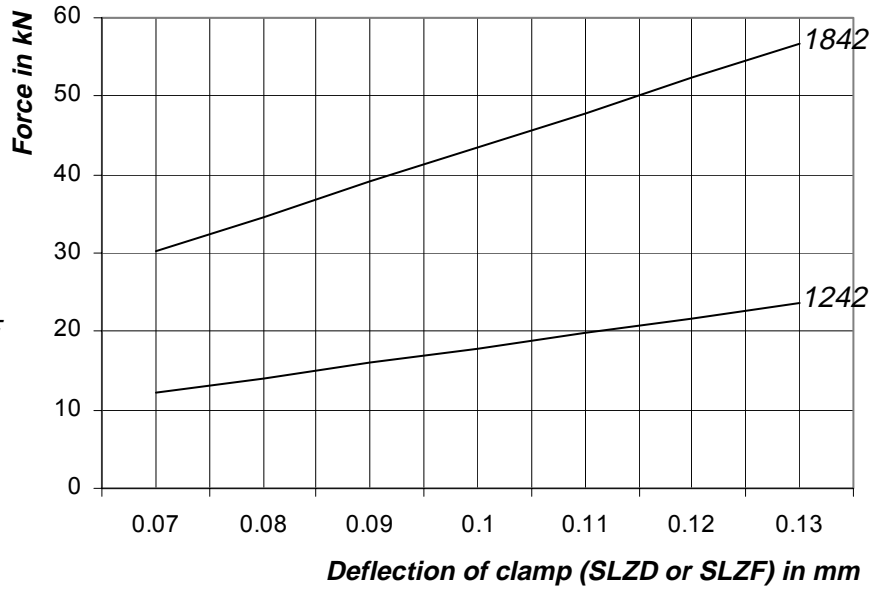

Figure 9-9 Deflection Diagram
- 5 Tighten both bolts alternately, first turning them half a turn each, then less, until the desired compression force is reached (see *Figure 9-9* for the correct value).
- 5 Tighten both screws alternately, first turning them half a turn each, then less, until the desired compression force is reached (see *Figure 9-9* for the correct value).